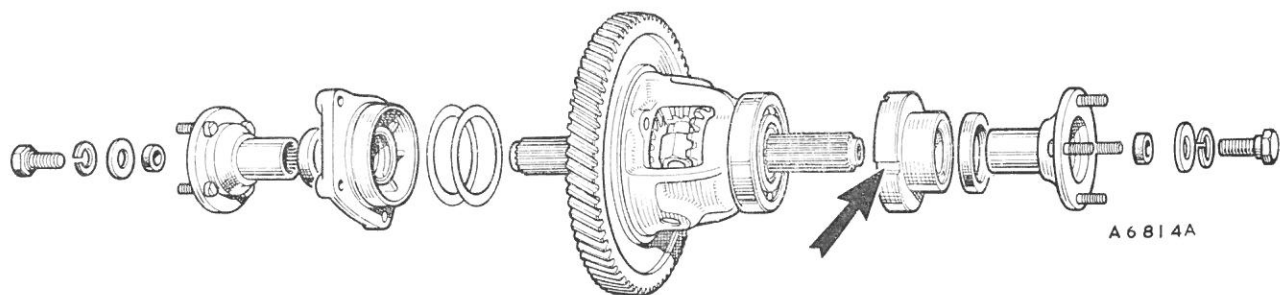

Fig. Fa.51
- (14) Refit the differential unit into the transmission case and push the assembly towards the converter, with the slot in the spacer in alignment with the dowel in the transmission case (Fig. Fa.51). Fit a new joint washer coated with Hylomar jointing compound. Ensure that the oil seal is pressed squarely against the face of the spacer and refit the differential housing, fit new locking plates, and lightly tighten the securing nuts.